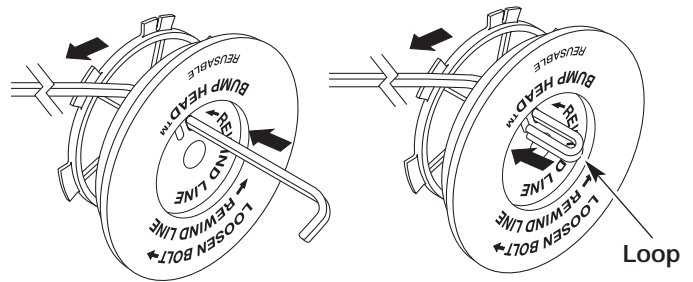

Fig. 30
- Take approximately 20 feet (6.1 m) of new trimming line. Insert one end of the line through one of the two holes in the inner reel (Fig. 30). Pull the line through the inner reel until only about 4 inches is left out.
- Insert the end of the line into the open hole in the inner reel and pull the line tight to make the loop as small as possible (Fig. 30).